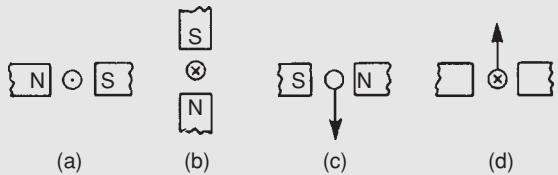

Figure 8.15
**Problem 5.** With reference to Fig. 8.15 determine
- (a) the direction of the force on the conductor in Fig. 8.15(a), (b) the direction of the force on the conductor in Fig. 8.15(b), (c) the direction of the current in Fig. 8.15(c), (d) the polarity of the magnetic system in Fig. 8.15(d).